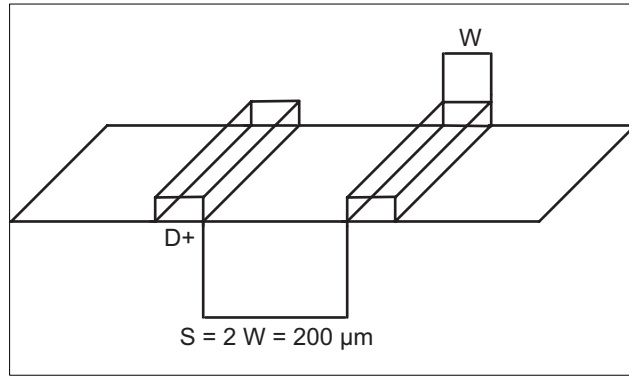

Figure 7-30. Guard Illustration
- For a line width equal to W , the spacing between two lines must be $2 \times W$, at least. This minimizes the crosstalk between switching signals between the different lines. On the PCB, this is not achievable everywhere (for example, when breaking signals out from the Device package), but it is recommended to follow this rule as much as possible. When violating this guideline, minimize the length of the traces running parallel to each other (see Figure 7-30).